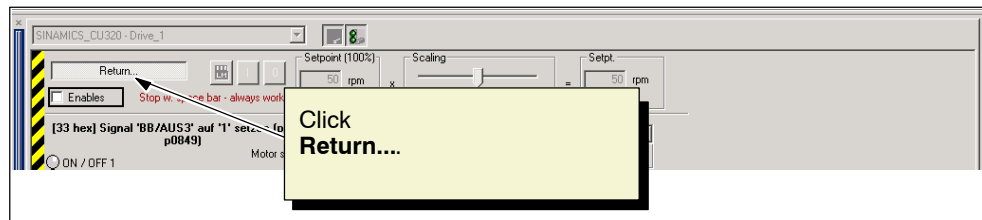

Fig. 4-14 Infeed control priority
12. Click **Return...** to terminate the connection to the drive unit (see Fig. 4-14).